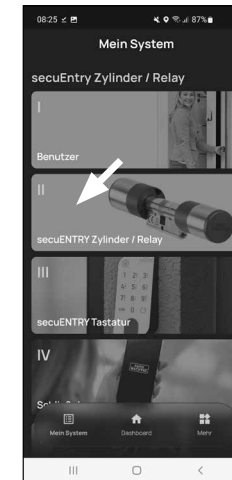

Fig. 1
- 1 Tap on the second menu item "*II - secuENTRY Units*" (Fig. 1).